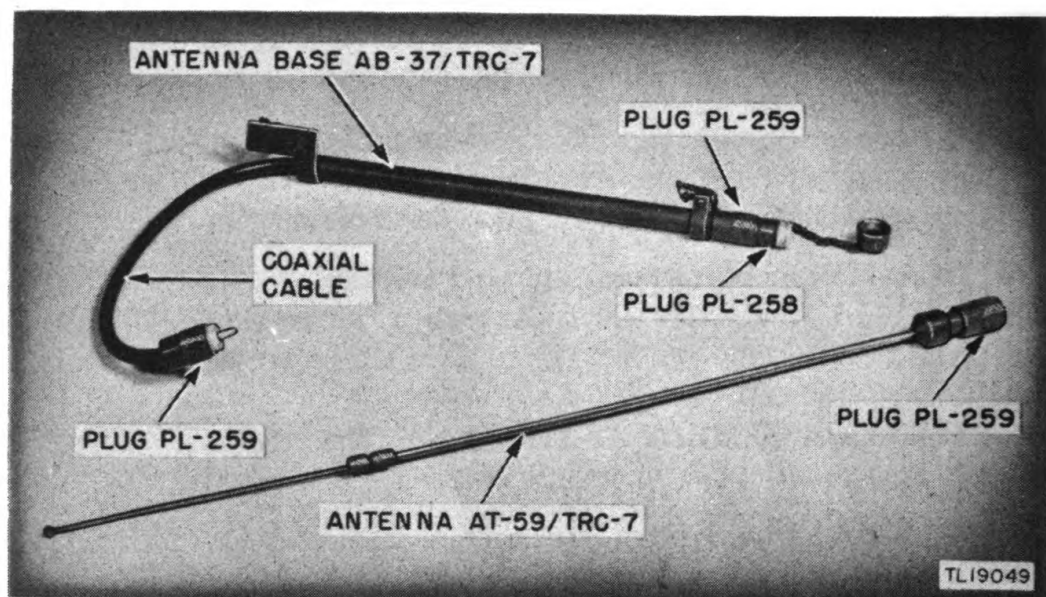

Figure 11. Antenna AT-59/TRC-7 and Antenna Base AB-37/TRC-7.
9. ANTENNA AT-59/TRC-7 (fig. 11).
Whip Antenna AT-59/TRC-7 is an adjustable, 28-inch, telescopic antenna used with Radio Set AN/TRC-7 when it is necessary to put the set into operation quickly, to limit range, or to conceal the set. It is also used before Antenna Assembly AS-110/TRC-7 is erected. Antenna Base AB-37/TRC-7 (fig. 11) using coaxial cable connects the radio set and the antenna.